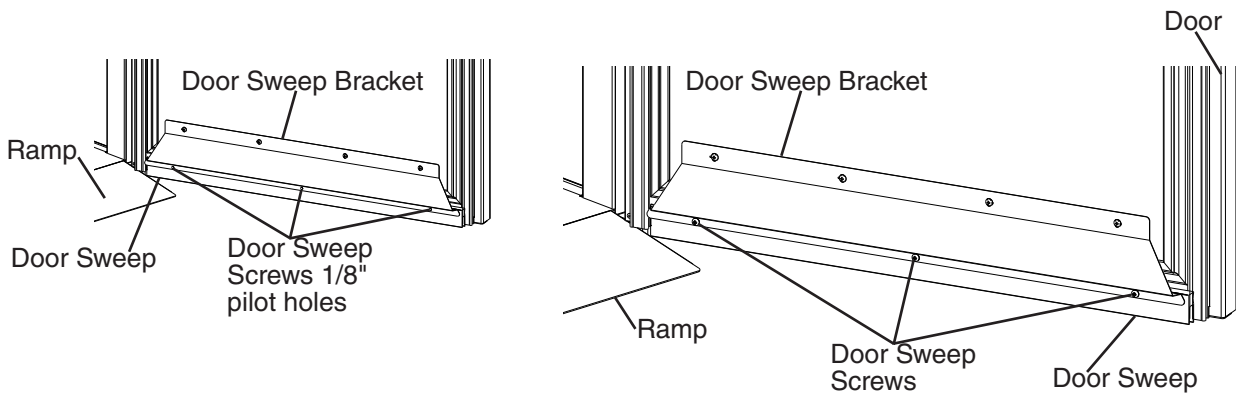

Fig. 9
6) Drill three 1/8" pilot holes in the positions shown in Fig. 9. Use the 3 screws provided in the accessory bag to secure the door sweep to the door sweep bracket and the door. Confirm the area where the appliance is to be installed is flat and level.